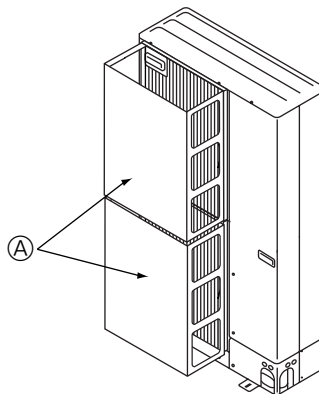

Fig.2-2
- Install an optional air guide if the unit is installed in a location where strong winds from a typhoon, etc. may directly enter the air outlet. (Fig. 2-2)